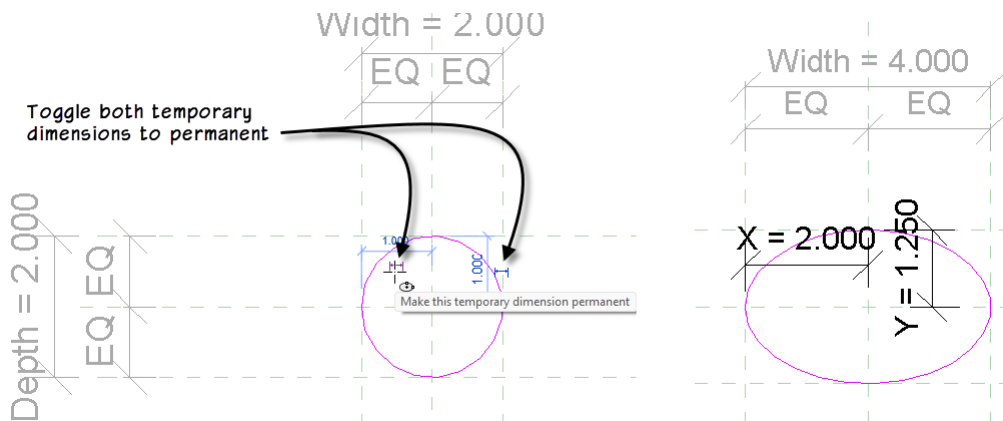

Figure 7—Draw an ellipse and make the dimensions for both axes permanent (left) Label the dimensions (right)
8. Make both dimensions permanent (see the left side of Figure 7).
10. Open the “Family Types” dialog and flex (see the right side of Figure 7).